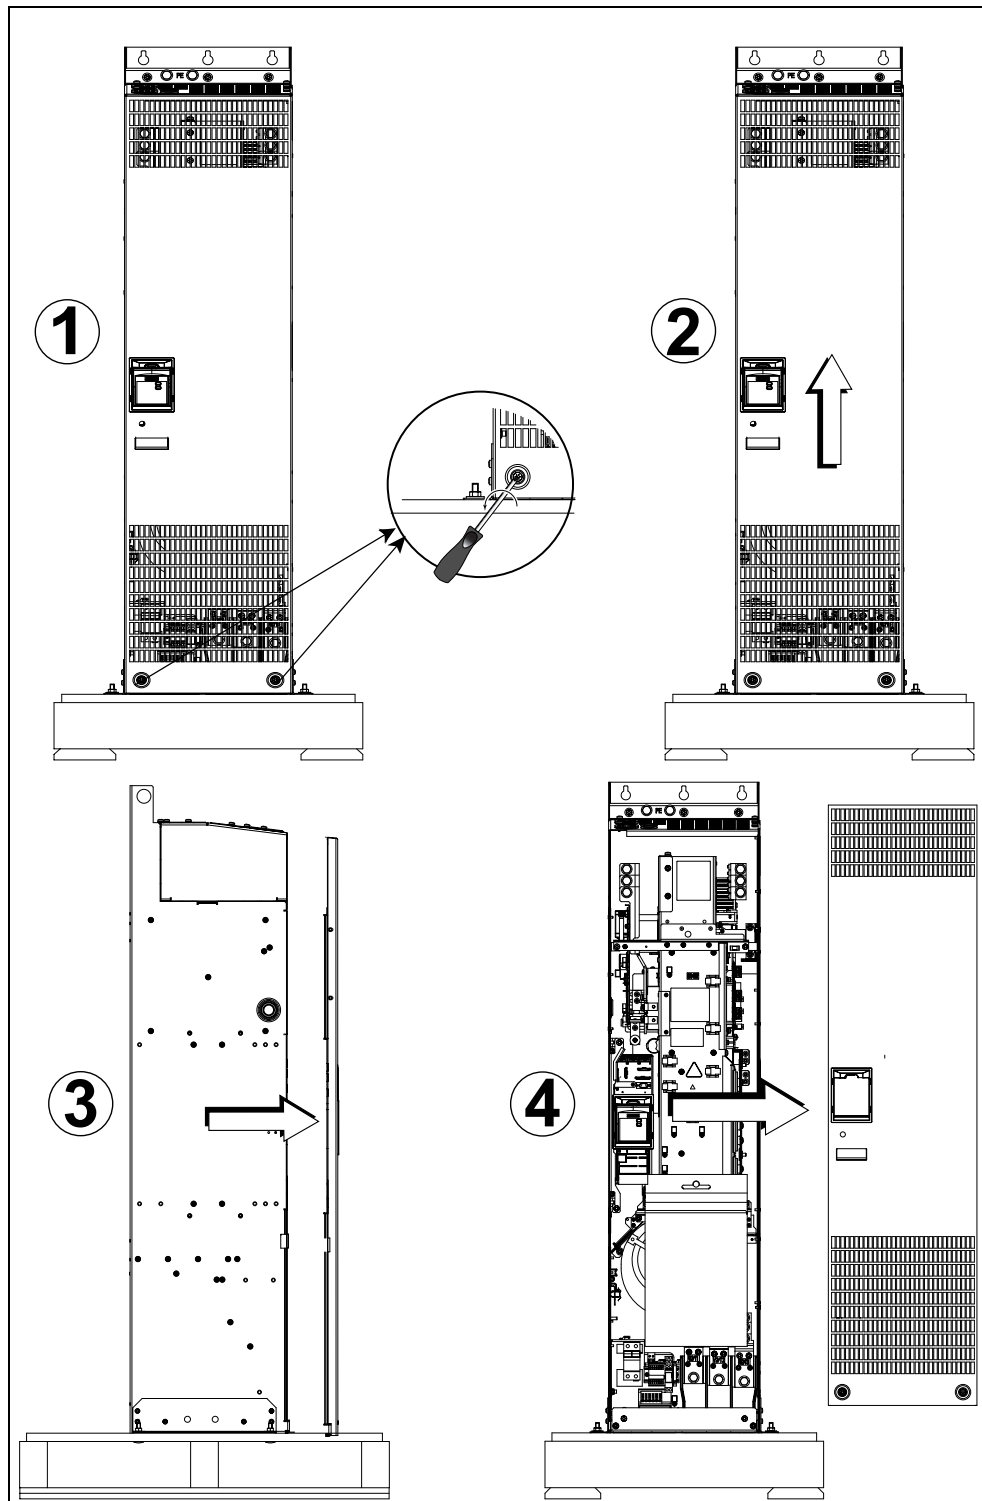

Fig. 2-5 Removing front covers (Frame Sizes FX and GX)
- Frame Sizes FX and GX (Fig. 2-5)